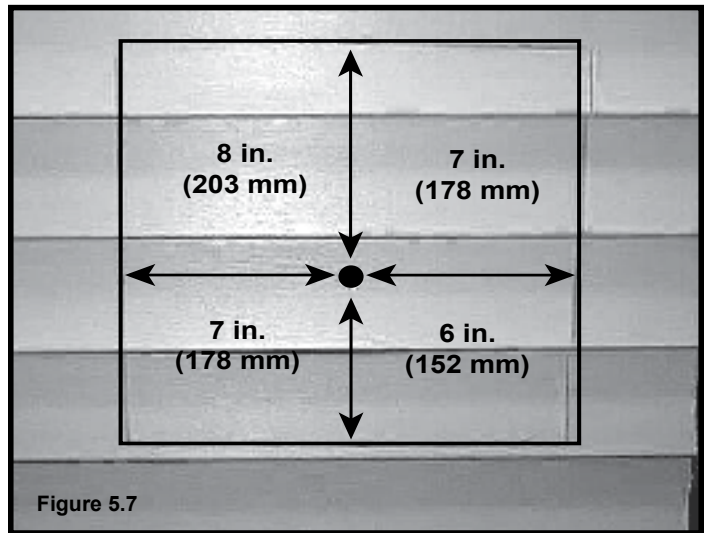

Figure 5.7
9. Termination cap HHW2 (Part #841-0670) is highly recommended on a building with vinyl siding, as the vinyl siding standoff is built in. The pilot hole will be 2 in. (51 mm) closer to the bottom of the square than the top. Using a framing square, draw a 14 in. x 14 in. (356 mm x 356 mm) square around the pilot hole. See **Figure 5.7**.